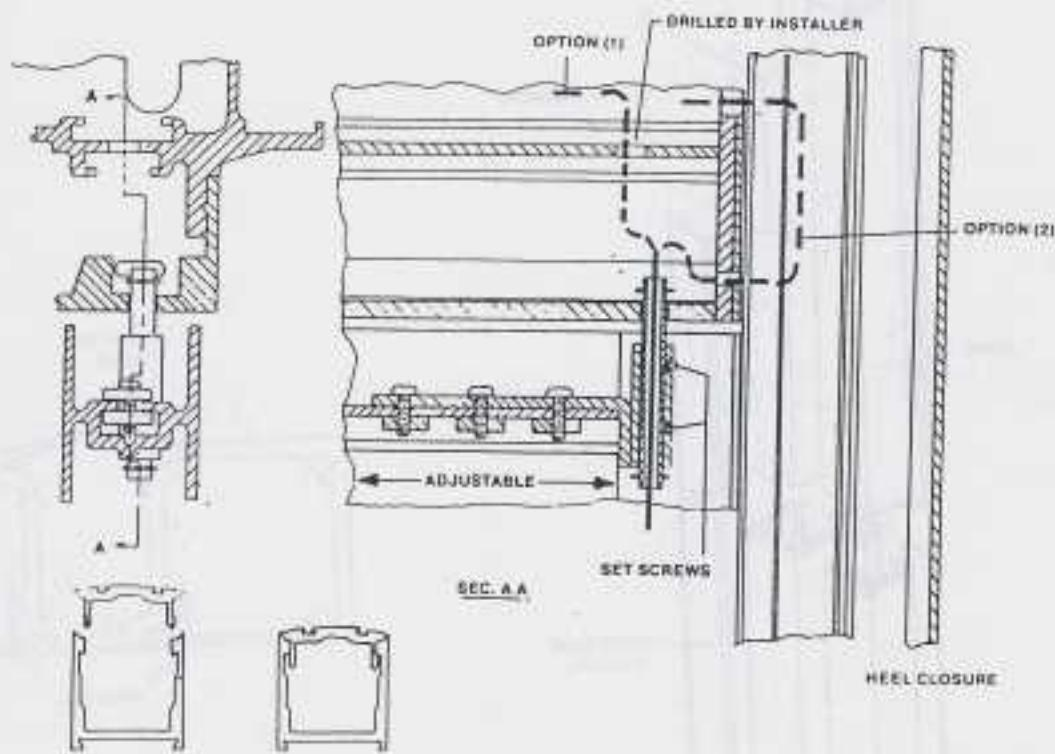
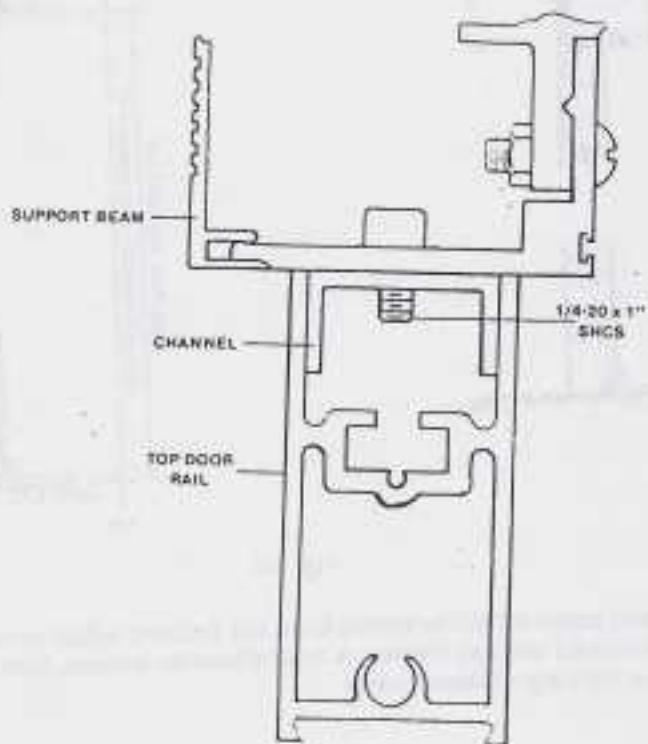
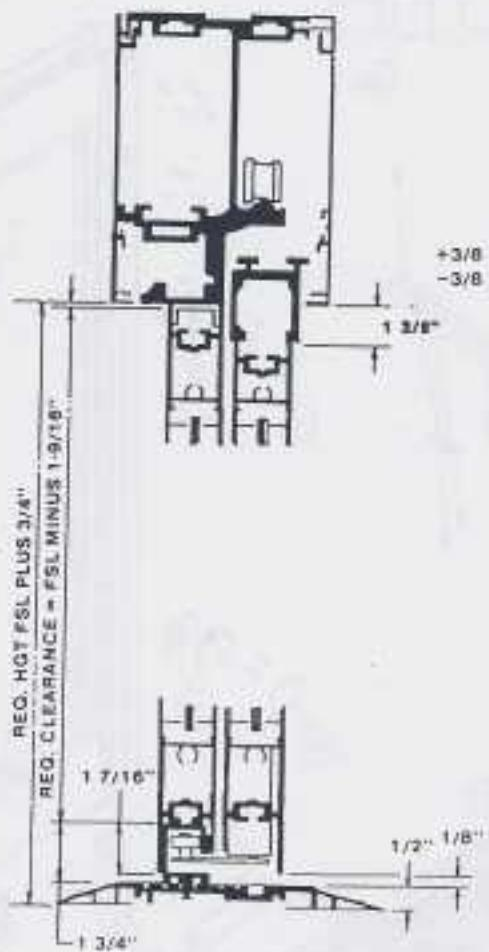

Fig. 34
Fig. 47
Fig. 48
Carefully remove the sidelite heel rail closure (see Fig. 34) which will access the top pivot (4) for installation and expose all photo cell wiring. Remove the E clip from the upper portion of the top pivot. Install the sidelite onto the bottom pivot while positioning it at 90 degrees to the operator. Carefully shim up the underside of the leading edge until the top pivot pin is aligned with its receptacle in the support beam.
Release the two (2) top pivot set screws (see Fig. 34) while inserting the pivot pin into the support beam. Resecure the set screws and check all sidelite clearances. All adjustments (see Fig. 32) to the top or bottom pivots should be performed at this time. Reinstall the E clip on to the pivot pin and retighten the two (2) set screws.
With the sidelite positioned at 90 degrees to the operator insert all photocell wiring thru the center hole of the top pivot pin. In order to access the upper control section of the support beam, the wiring can be run in two directions. (1) By drilling a 5/16" diameter hole thru the upper section of the support beam. (2) By running the wiring from the lower to the upper wiring access holes (see Fig. 34) located in the steel end plate. Wire photo cells (see Fig. 69) and reinstall the sidelite heel rail closure.
Position the bottom of the fixed sidelite (with guide cutout towards the active leaf), parallel to the threshold adapter while inserting it into the adapter. Position the top of the sidelite plumb under the support beam and bolt the open back sidelite rail tight to the vertical jamb. Secure the top of the sidelite with screws down thru the support beam (see fig. 47) into the aluminum channel (4) located in the top of the sidelite. The wiring is installed up thru the 3/8" access hole and can be run in two directions.
- (1) By drilling a 3/8" diameter hole thru the upper section of the support beam.
- (2) By running the wiring from the lower to the upper wiring access holes (see fig. 34) located in the steel end plate. Wire photocell and panic breakout indicator according to the installation wiring diagram (see pages 22, 43 and 44).
Check to see that the distance between the bottom of the support beam and the guide track is sufficient enough (see fig. 48) to accept the sidelite height, make adjustments to the guide track if necessary. Check to see that the aluminum channel (4) (located in the top web of the sidelite) which secures the top of the sidelite to the bottom of the support beam is installed. Remove all photo cell and panic indicator wiring from the leading edge vertical rail (see fig. 46) and position them into the notched area as shown. A 3/8" diameter access hole is required in the bottom of the support beam for the running of these wires. Position the bottom heel of the fixed sidelite, with guide cutout towards active leaf, onto the guide track and slide it onto the track until the sidelite open back vertical rail is tight to the vertical jamb. Plumb the top of the sidelite and secure with screws down thru the support beam (see fig. 47) into the aluminum channel located in the top of the sidelite. The wiring is installed up thru the 3/8" access hole and can be run in two directions.
- (2) By running the wiring from the lower to the upper wiring access holes (see fig. 34) located in the steel end plate. Wire photocell and panic breakout indicator according to the installation wiring diagram (see pages 22, 43 and 44)